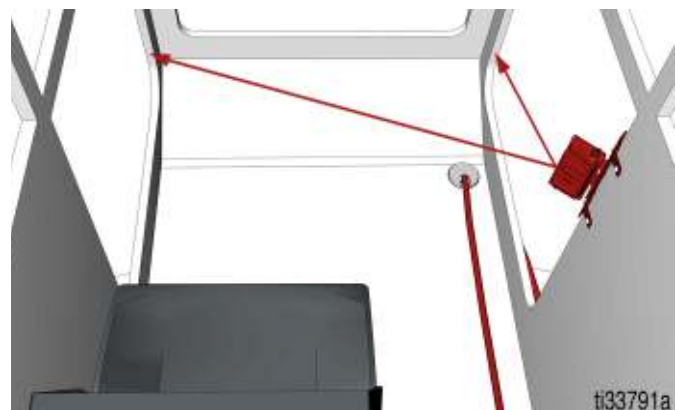

FIG. 17
3. Install the bracket inside the cab using existing holes in the cab, and the hardware provided in the kit (FIG. 17).